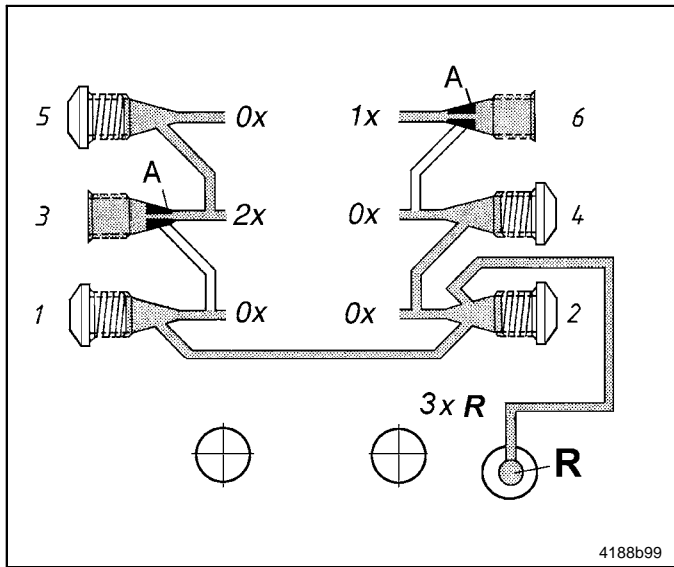

Fig. 4 Internal feedback of supplied lubricant, only on rear-side mounted SSV divider blocks
- Fig. 4 (page 8) outlets 1, 2, 4 and 5
- Start from the smallest outlet number when closing the outlets, for instance 2, 4, 6 on even side or 1, 3, 5 on odd side plus outlet 2. In fig. 4 the quantities of outlets 1, 2 and 4 (3xR) are fed back to the reservoir.